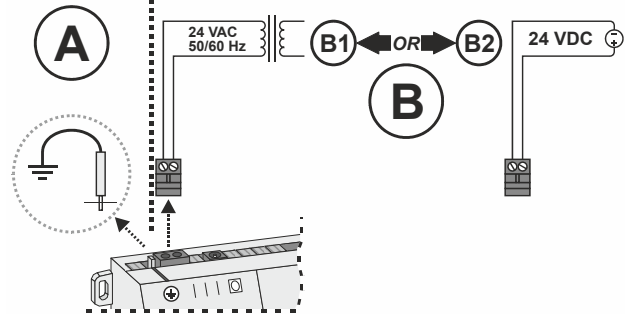

Fig. 7. Earth ground and power options
Earth grounding (see "A" in Fig. 7) provides protection against electrostatic discharge or other forms of EMI.
- NOTE:** Depending upon the power source used (see Fig. 7):
Apply power by inserting the 2-position 24V power connector plug. See also Fig. 7.